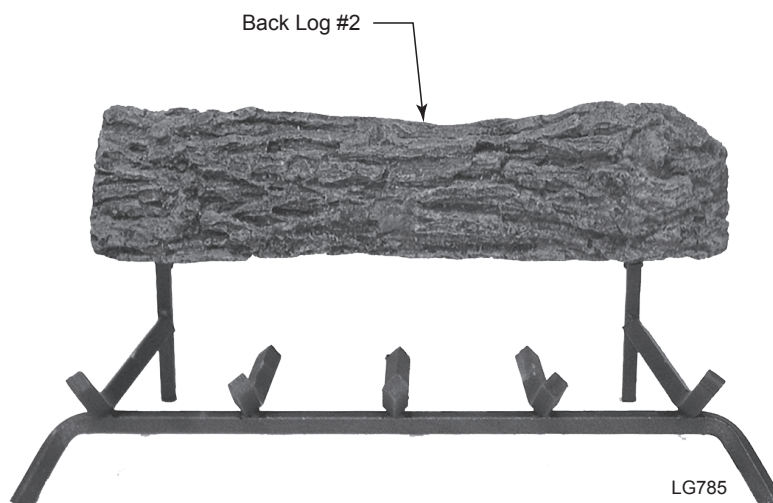

Figure 16 -
1. Place Back Log #2 on grate bars on back of grate. *Figure 16*